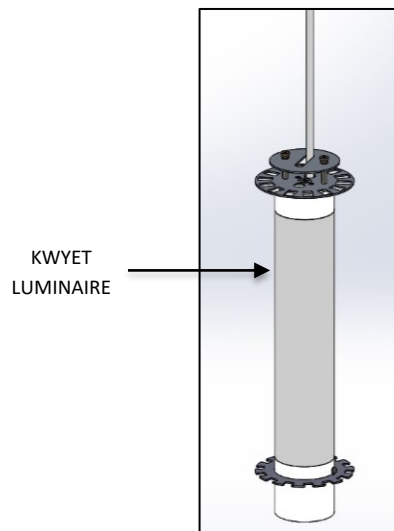

FIG. 2 - KWYET LUMINAIRE (PRE-ASSEMBLED)
1. KWYET LUMINAIRE with CORD attached. (Pre-assembled as shown in FIG. 2)